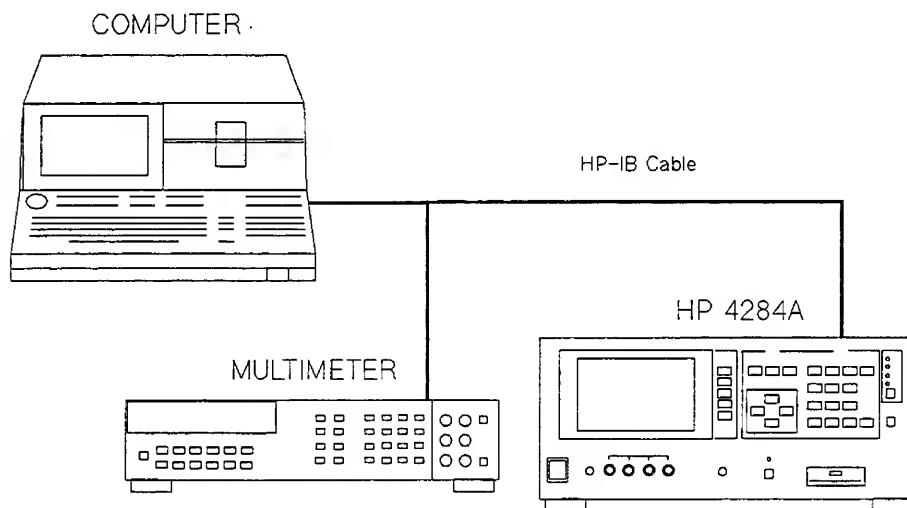

Figure 2-2. Adjustment Program Setup
2. Set the HP 4284A's EEPROM write protect jumper (A7W2) from the normal position (N) to the test position.
4. Connect the HP 4284A, HP 3458A and the Computer using the HP-IB Cables. The computer's interface select code must be set to 7. Figure 2-2 shows the setup.